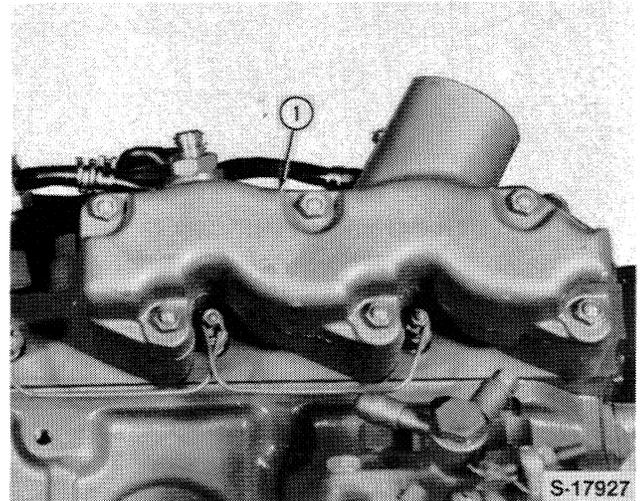

Figure 11
- 13. **Model 1510 only:** Remove the air inlet manifold assembly, Figure 11.